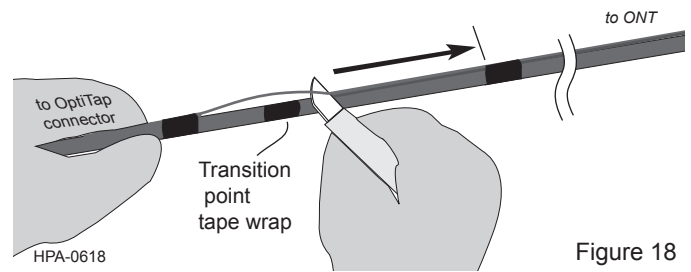

Figure 18
- c. Holding the cable in one gloved hand with the toning wire facing up, use a cable knife to separate the toning wire between the wraps applied in Step a. - only light pressure is needed to cut the web. Cut with the blade tilted toward the cable to minimize the left-over web material on the cable (Figure 18).